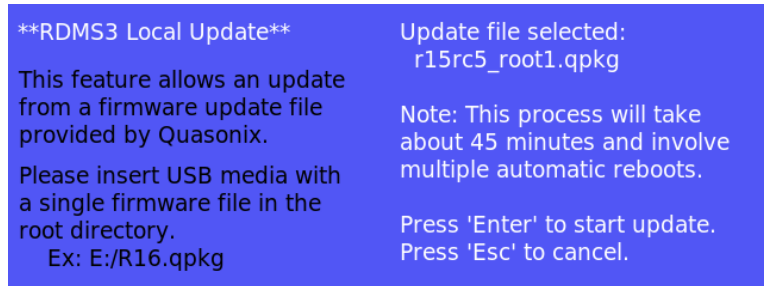

Figure 181: RDMS3 Local Update Screen, Update File Selected
7. If a proper update file is found, the name of the file displays on the front panel along with additional instructions, as shown in Figure 181.